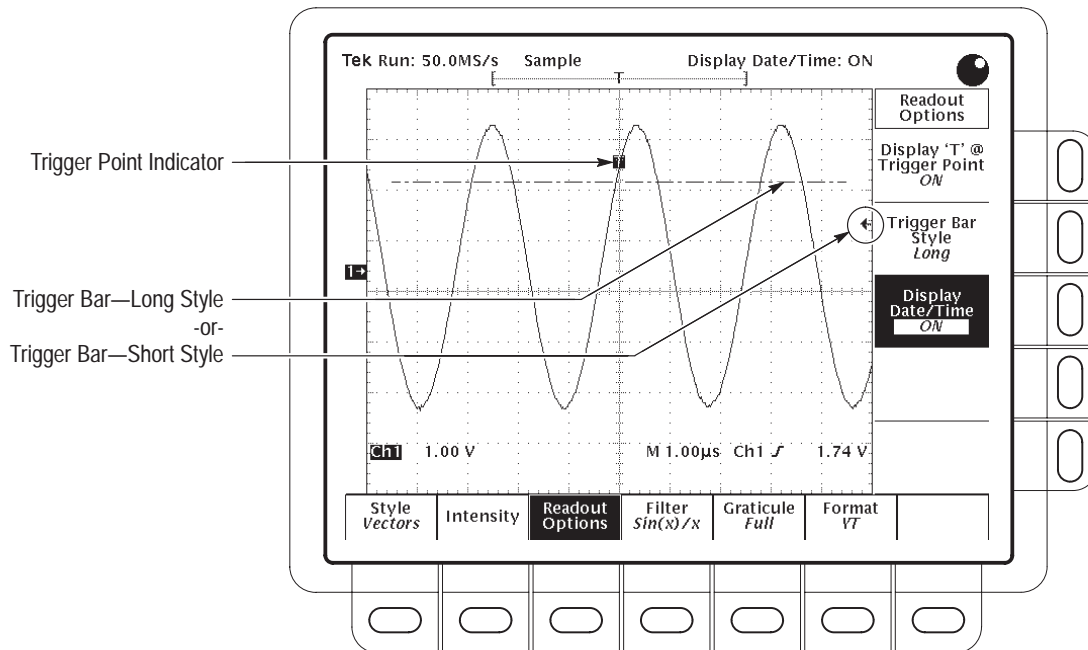

Figure 3-10: Trigger Point and Level Indicators
3. To select either the short or the long trigger bar or to turn the trigger bar off, toggle **Trigger Bar Style** (side). (See Figure 3-10. Note that both styles are shown for illustrating purposes, but you can only display one style at a time.)